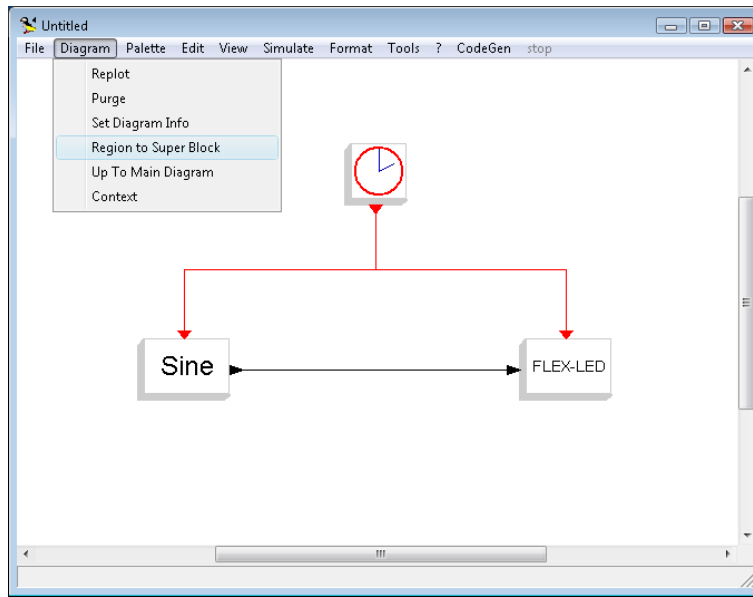
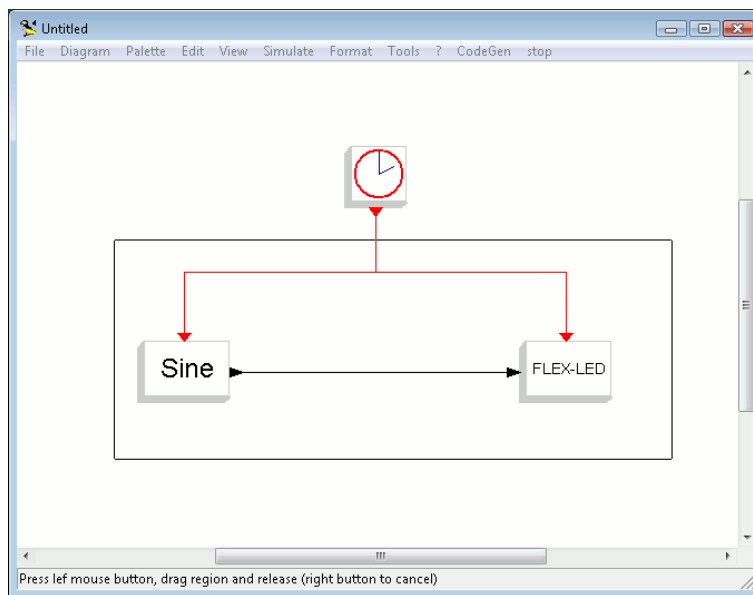

Figure 5.13: The Region to Super Block menu item.
Figure 5.14: The selection made to create a Super Block.
13. The code generator can produce code which only comes from a special block named *Super Block*. For this reason, we need to create a Super Block enclosing the `Sine` and the `LED` blocks. To do that, select the `Region to Super Block` menu item from the `Diagram` menu (see Figure 5.13). Then, draw a selection which includes the `Sine`, the `LED`, and the red lines in a way that only *one* red line exits the selection, as shown in Figure 5.14.